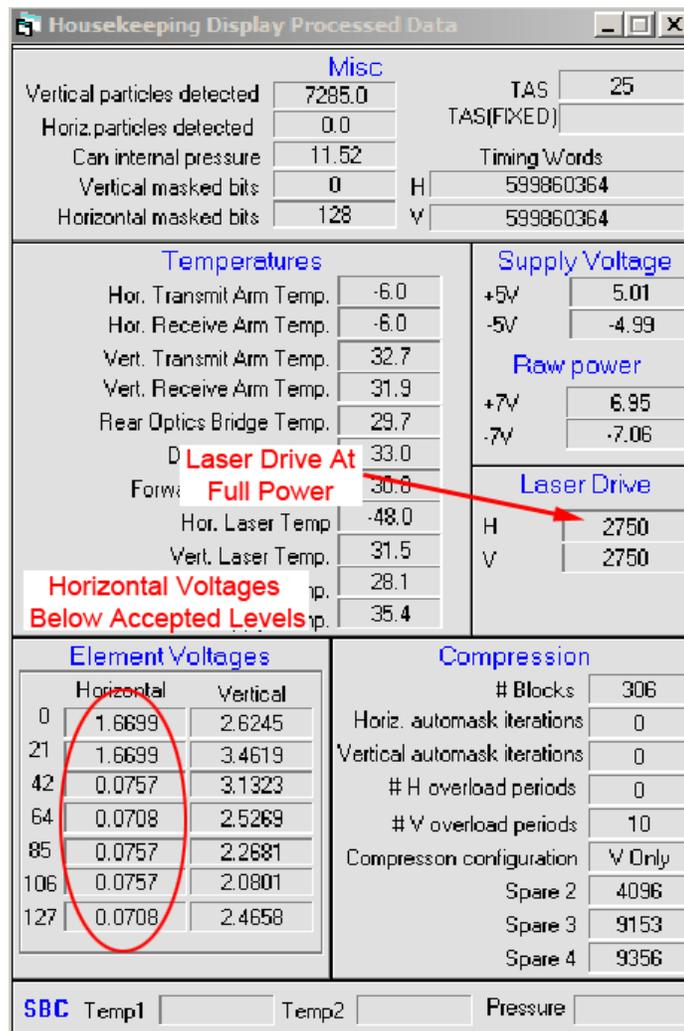

Figure 3.2.1. 2D-S Housekeeping shows low element voltages with laser drive at full power.
During normal airborne operation, the optical windows of the Hawkeye will become contaminated due to cloud drops and streaming water. Contamination on the windows of the imaging system can result in a decreased image mean and a severely contaminated background over time. Contamination of the stereo particle windows of the 2D-S will cause false firing of the imaging system and false readings for the stereo channels. If the elemental voltages for a 2D-S channel or the FCDP are below the factory settings, the windows should be cleaned (Figure 3.2.1).
1. **Figure 3.2.1** showed the Housekeeping Menu in the 2D-S GUI. If the menu shows low elemental voltages with the laser drive at full power, the windows should be cleaned. Write down the array element voltages displayed in the Housekeeping Window, there are seven elements for each array. The goal in cleaning is that you are trying to raise the transmission of light, which corresponds to higher array voltages. Once the baseline voltages are recorded, the system can be turned off so as not to overheat the probe on the ground.